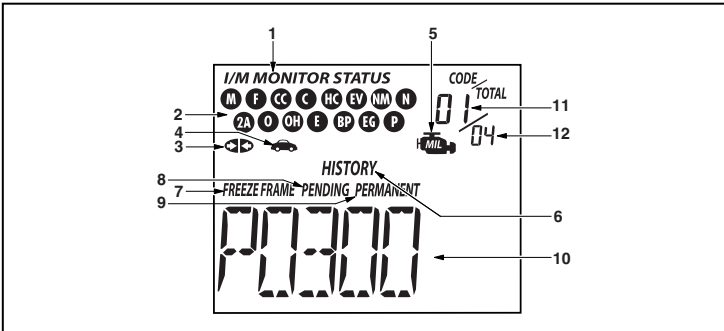

Figure 2. Display Functions
See Figure 2 for the locations of items 1 through 15 below.